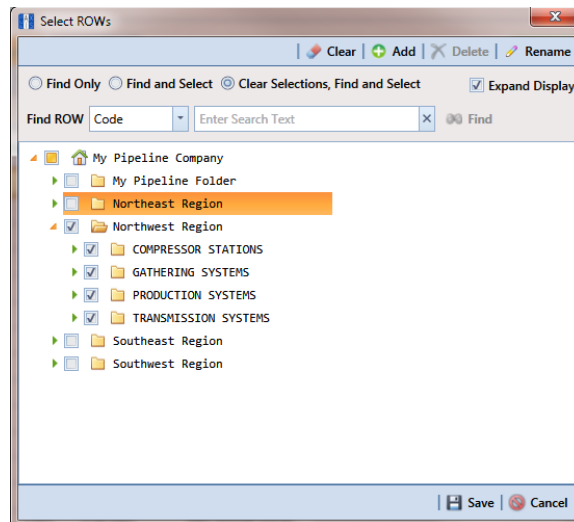

Figure 8-6. Select ROWs
- 1 Click the **Select ROWs** button  to open the *Select ROWs* window (Figure 8-6). Select one or more pipeline segments with facilities you want to include in the route. Click  **Save** to close the window.
- a** Select one or more pipeline segments in the *Select ROWs* window (Figure 8-6, page 355). Click **Save** to close the window.
- 1 Select one or more pipeline segments in the *Select ROWs* window (Figure 8-6, page 355). Select pipeline segments with facilities you plan to include in the route. Click  **Save** to close the window.
- 1 Select one or more pipeline segments in the *Select ROWs* window (Figure 8-6, page 355). Select pipeline segments with facilities you plan to include in a route for an averaged reading survey. Click  **Save** to close the window.